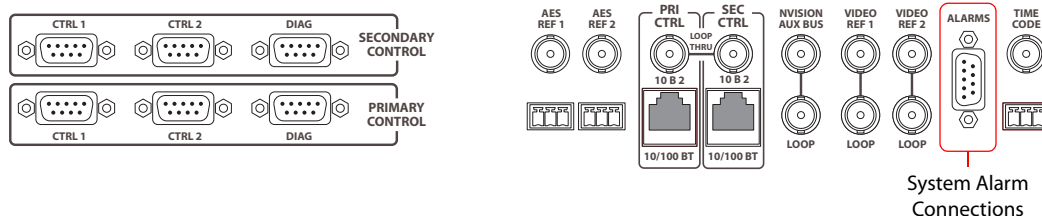

Figure 3-17. System Alarm Connection on Router (Rear View)
- 4 On the rear of the **router**, locate the ‘ALARMS’ connection, as shown in Figure 3-17.